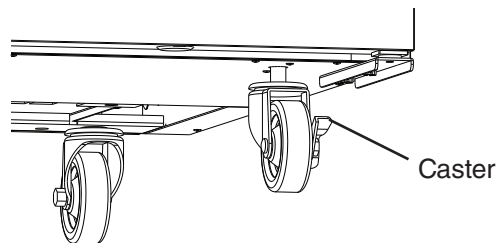

Fig. 3
- 2) Unscrew the appropriate caster to the approximate desired height. See Fig. 3.